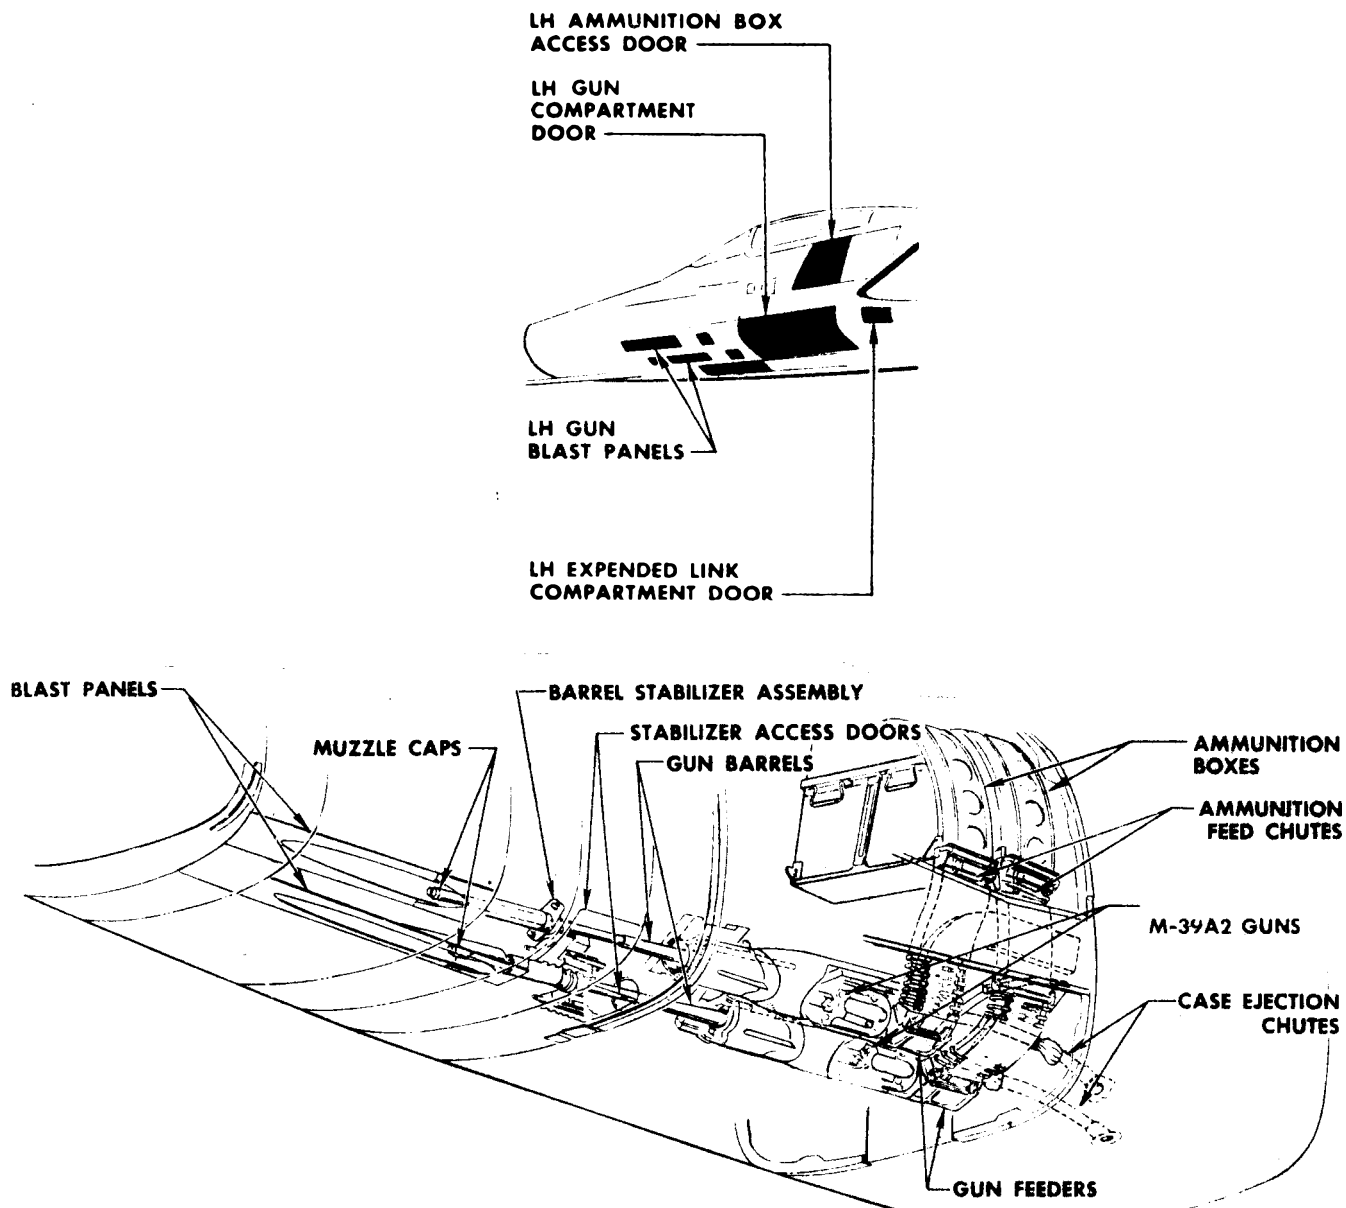

Figure 9-28. Gunnersight System (Left Hand Side)
(1) The ammunition system for the F-100D consists of 200 rounds in each of four ammo cans located two on each side above the guns under a separate panel. (see figures 9-28 and 9-29)